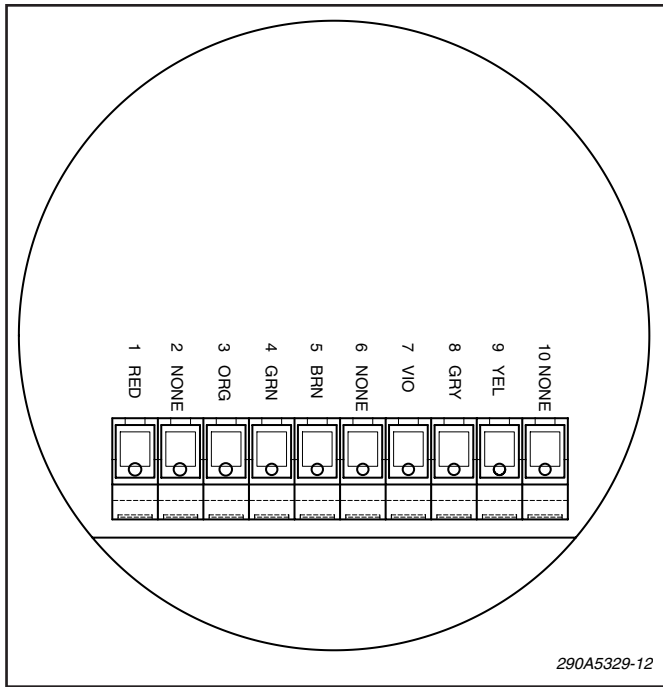

Figure 11.
c. See figure 11. Strip the cable jacket back 4 inches, then strip 1/4" of the insulation from the wires shown in figure 11.
d. Connect the wires to the screw header on the SignalMaster board as shown in figure 11.